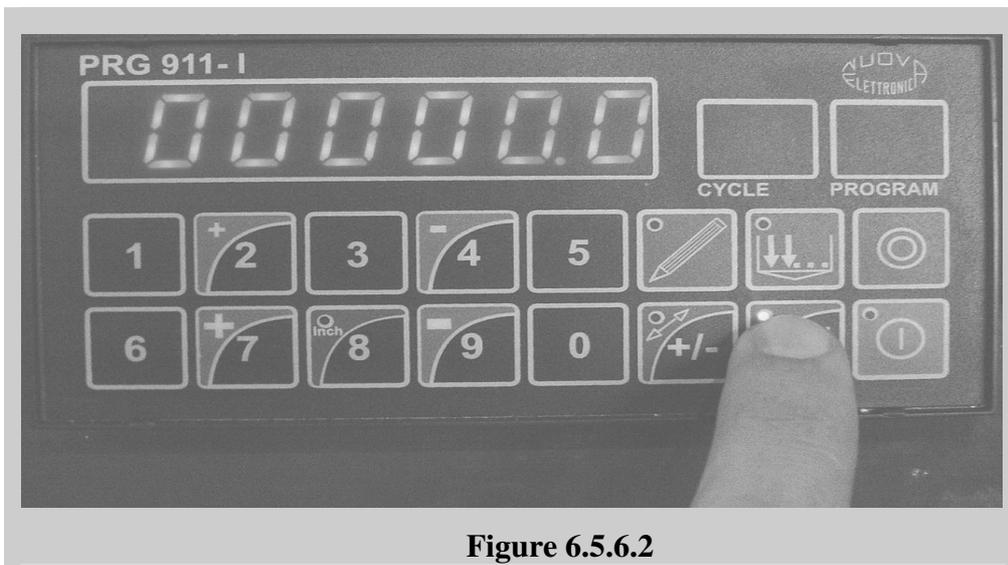

Figure 6.5.6.2
Press the semi-automatic selection  button (enter button at the same time) shown in **Figure 6.5.6.2**. The small led on the upper left corner of the key will lit up. The position display starts flashing and shows 0000.0 which means it is ready to read any numerical value among limit conditions from keyboard. That is you can write the plate width to be sheared.
2. After writing back-gauge position value (it means plate width) shown in **Figure 6.5.6.3**, you can enter repetition value. Repetition means how many plates you will cut. To do so;